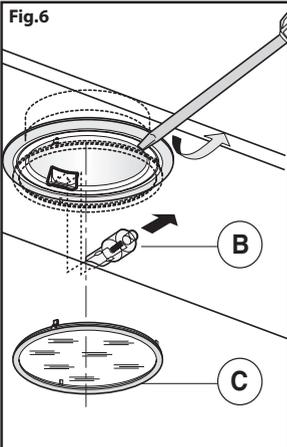

Fig.7
• **Commands slider (Fig.7)** the key symbols are explained below: